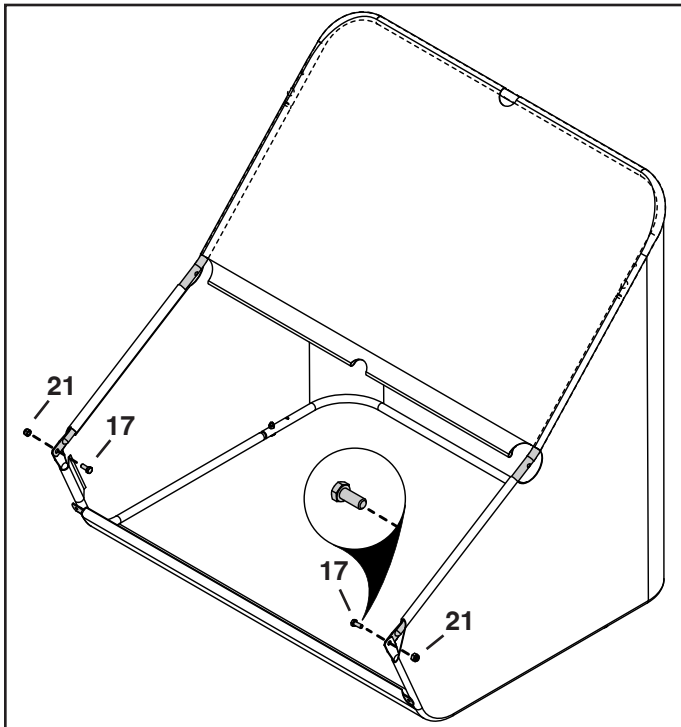

FIGURE 13
STEP 13: (SEE FIGURE 13)
1. Secure the top and bottom hopper tubes together using two 5/16" x 3/4" hex bolts (17) on inside the hopper bag and two 5/16" nylock nuts (21) outside.